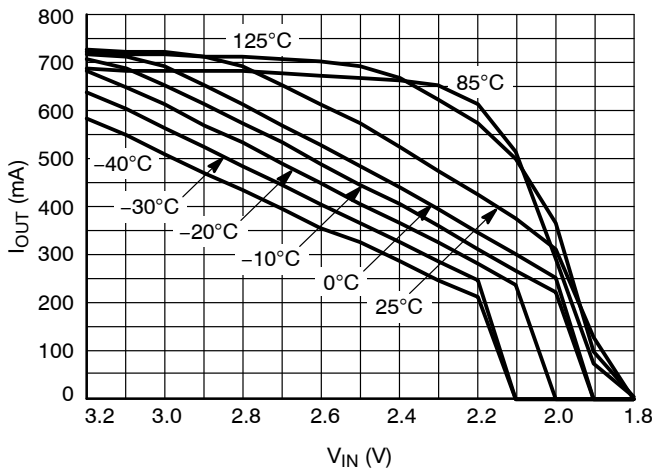

Figure 21. Output Current Capability for the 1.8 V Version
18. For output current capability for $T_A < 0$ °C, please refer to Figure 21.